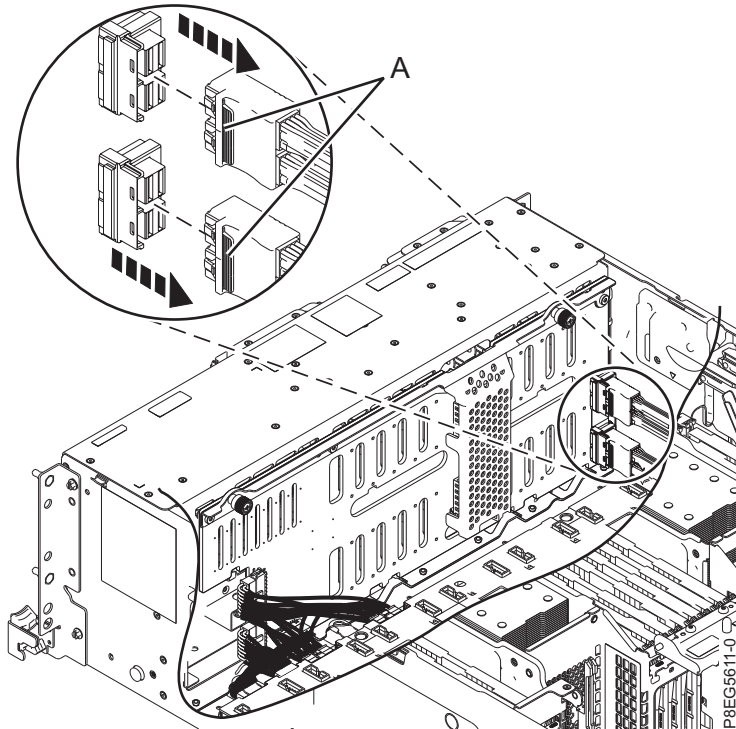

Figure 14. Disconnecting the front SAS cables
4. Label the front SAS cables, paying attention to the connectors each cable attaches to on the disk drive backplane and the SAS RAID internal adapter. Disconnect the front SAS cables from the disk drive backplane by pressing the latch (A) and unplugging the cable as shown in Figure 14 on page 17.